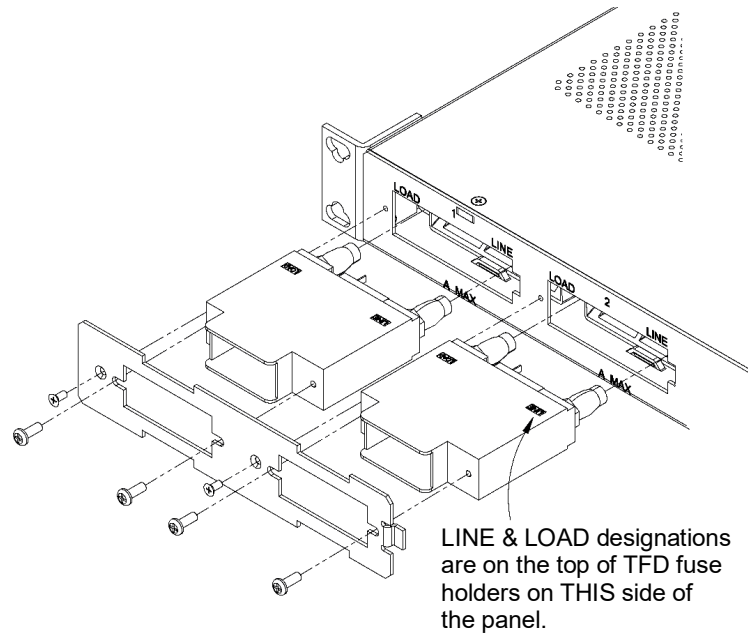

Fig. 3: Installing circuit breakers and TFD fuse holders on model 009-7001-0104B
2. With the input power off, firmly install the circuit breakers or fuse holders in the panel. As shown in Fig. 3, install the TFD fuse holders and bezel(s):